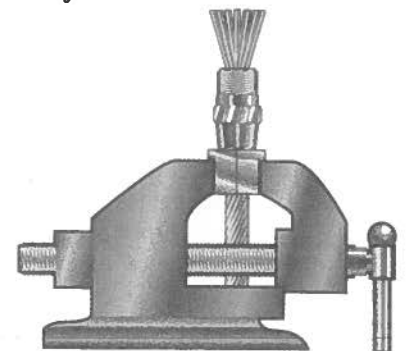

Figure 2
STEP 3: Unlay the rope. (Figure 2) Gently force a screwdriver between the strands to unlay the rope. When done correctly, the strands will form a symmetrical basket. Do not straighten the spiral lay of the strands, unlay any wires that make up the strand, or allow the strands to cross each other inside the sleeve.